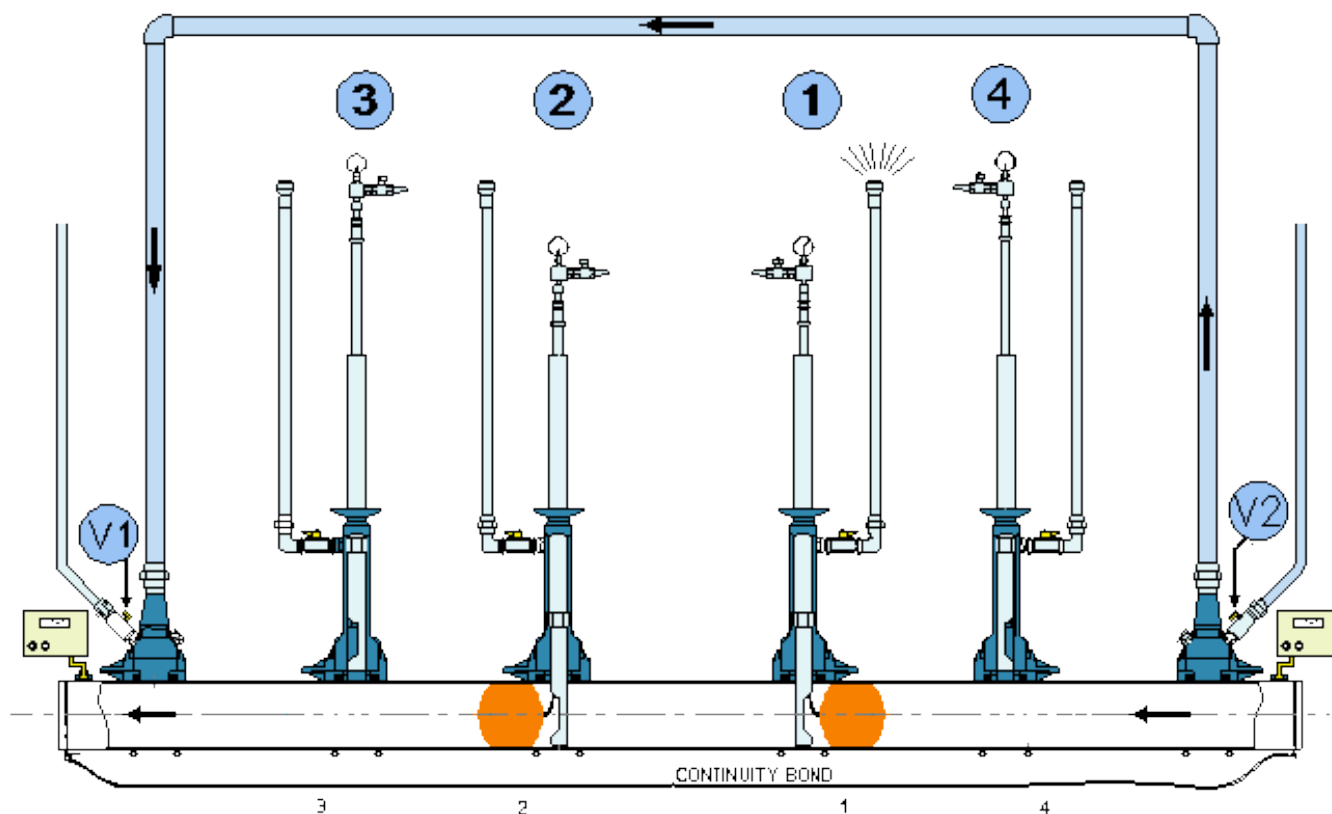

Figure 64- Installation of Bag 2 (Downstream Secondary)
10. Insert bag 2 into the main, see Figure 64, make sure that the bag is facing away from the cut out section.
11. As shown in Figure 64 once the pressure has stabilised on the gauges, insert bag and inflate to the required pressure. (Table 27)